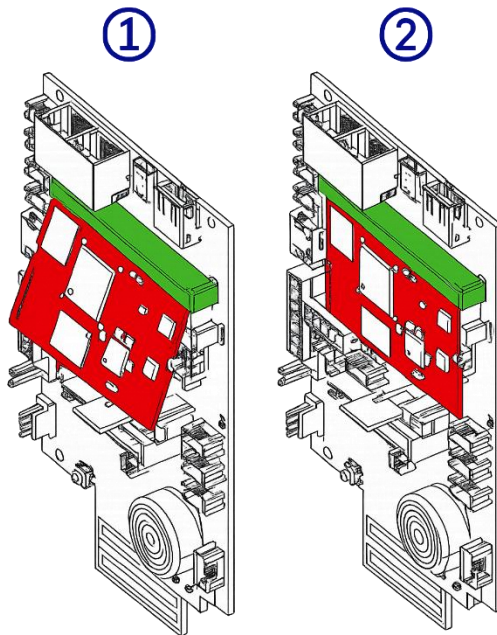

Figure 33 - Install ITAB Edge Board
1. Holding the ITAB Edge Board along the edges, align the notches on the ITAB Edge Board with the ridge in the slot (shown in green in figure 33 below).